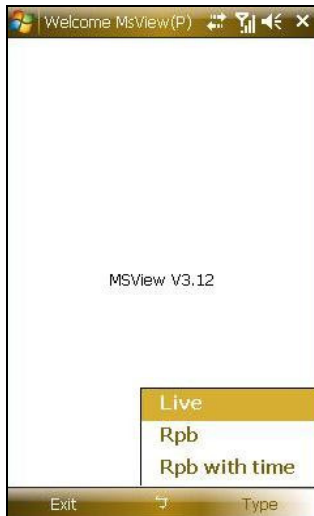

Figure 10-14
3. Select **Type** and then **RPB** (Figure 10-14). The login screen appears. If you want to search the recordings within a specific period of time for playback, select **RPB with time**.